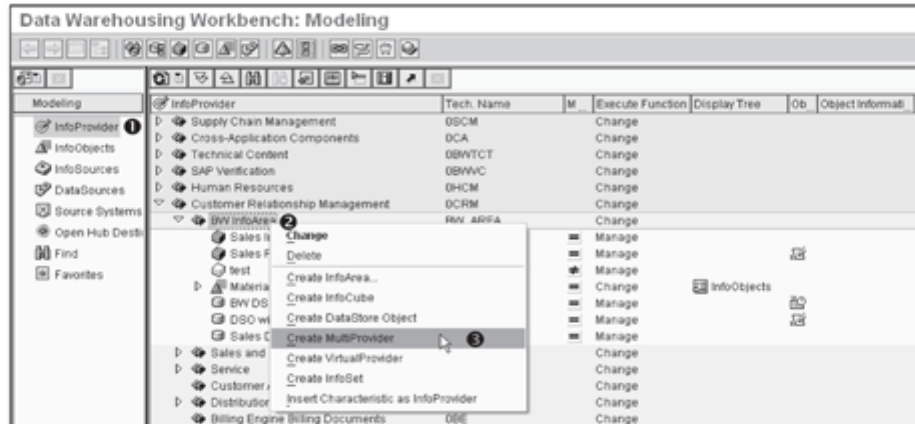

Figure 6.3 Creating a MultiProvider
From your Data Warehousing Workbench (Transaction RSA1), select the InfoProvider from the Modeling section as shown in ❶ of Figure 6.3. A MultiProvider is created under InfoArea. Select the InfoArea BW_AREA (❷). Start the context menu of the InfoArea BW_AREA, and select Create MultiProvider (❸).